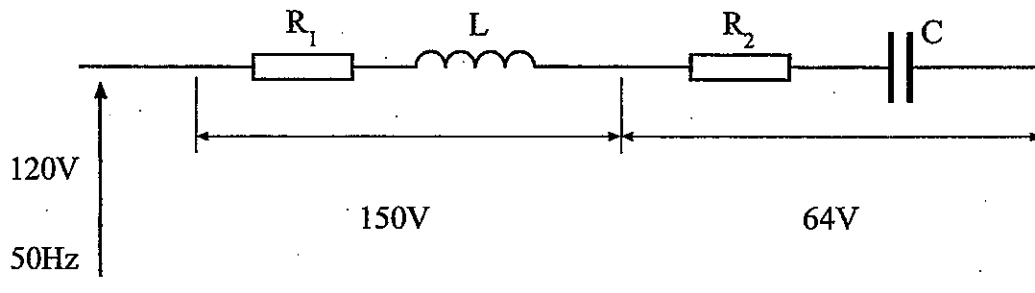

Fig Q4
4. The series circuit shown in Fig Q4 is connected to 120V 50Hz supply. It draws a current of 2.4A at a power factor of 0.8 lagging. The resistor  $R_2$  dissipates 57.6W and the volt drops across the various parts of the circuit are as shown.